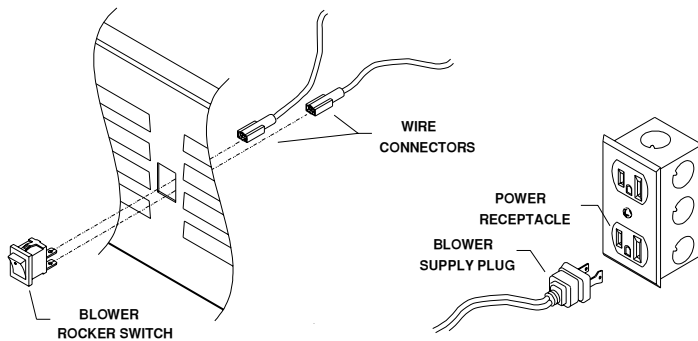

Figure 5 – Connecting Switch and Supply Plug
1. Remove the 2 connectors from the ON/OFF rocker switch located on the wiring harness. See Figure 5.
4. Insert the supply plug into one of the available power receptacles at the right side of the compartment. See Figure 5.